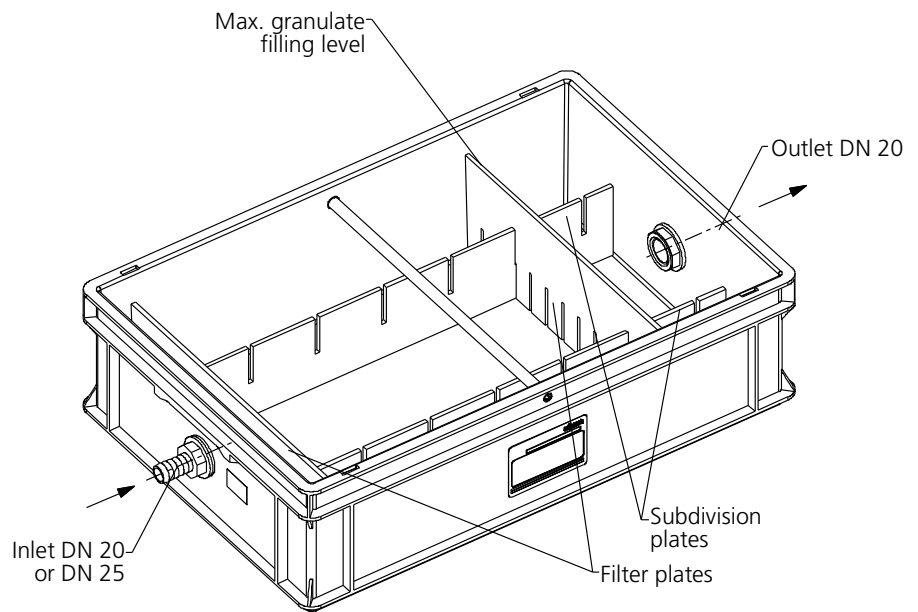

Fig. D-5: Filling level of N-210
- In case to the N-210 system, adapt the filling area for the neutralisation granulate to the capacity of the gas condensing boiler to be connected by sticking the plates together according to fig. D-5, D-6. If necessary, install DN 20 inlet hose connection and connect it with optional DN 20 hose.